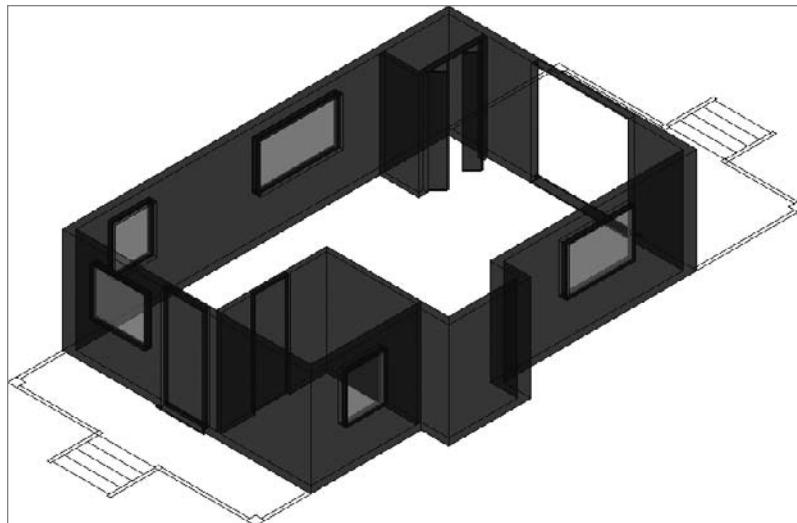

FIGURE 16.45 The cabin after the doors are in place
12. Zoom out and switch to the X-Ray visual style. Your cabin should look like Figure 16.45.